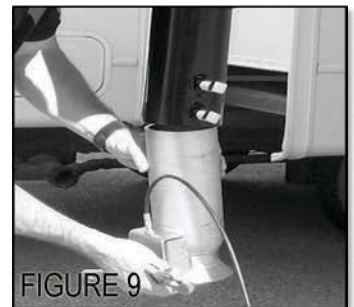

FIGURE 9
9. Locate the stinger and remote cable assembly and the 2 set bolts. Place the stinger into the base and lightly tighten the set bolts enough to hold the stinger in place (**see Figure 9**). Note that the stinger tube has a scribed line or groove approximately half way up the tube. This line must not be visible when the stinger is in its final or lowest adjustment position in the base or there will not be sufficient stinger material inside the base for the set bolts to engage.